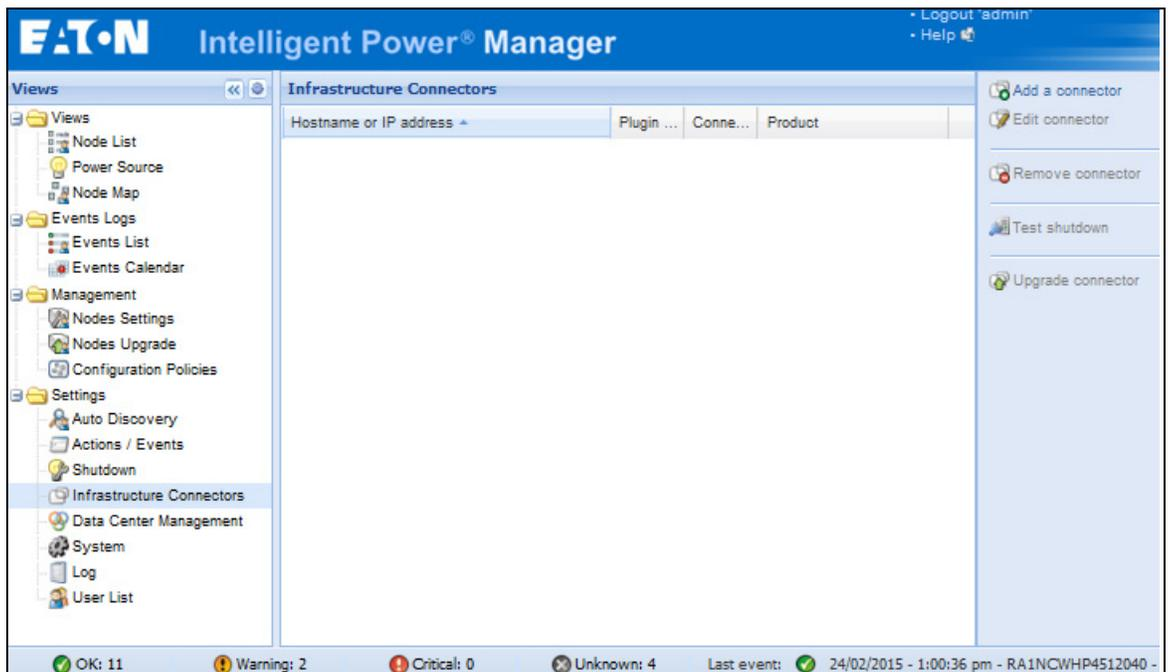

Figure 135. Select Add a Connector
- From the left-side **Views** panel of the Eaton IPM main interface window, select the **Settings > Infrastructure Connectors** menu item. The Infrastructure Connectors page displays (see Figure 135).